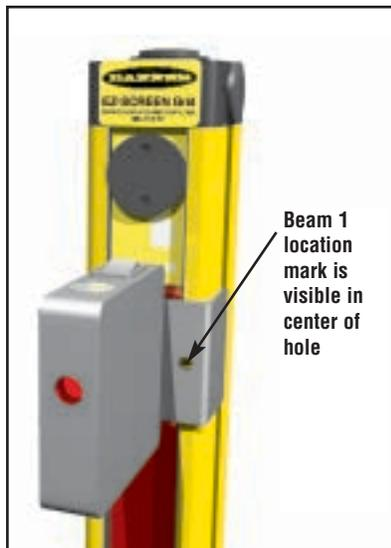

Figure 3-12. The LAT-1 Laser Alignment Tool, in position on beam 1 of the emitter
- 1) Attach the battery-powered LAT-1 to the housing of the emitter over the location of beam 1 (closest to the display), using the EZ-SCREEN bracket clip included with the tool. A dot on the sensor housing next to the lens window indicates the beam's location. Align the hole on the LAT-1 over the beam 1 marking (see Figure 3-12).